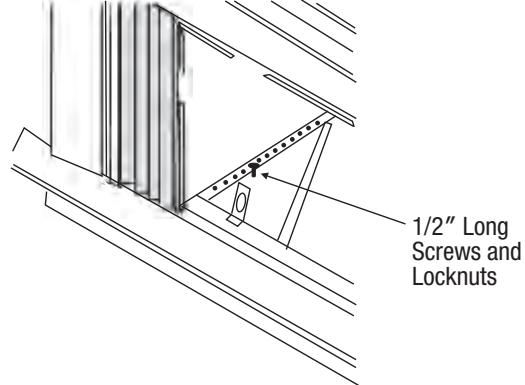

FIG. 16
3. Install support brackets (with sill angle brackets attached) to correct hole in bottom of cabinet, as shown in Fig. 16.